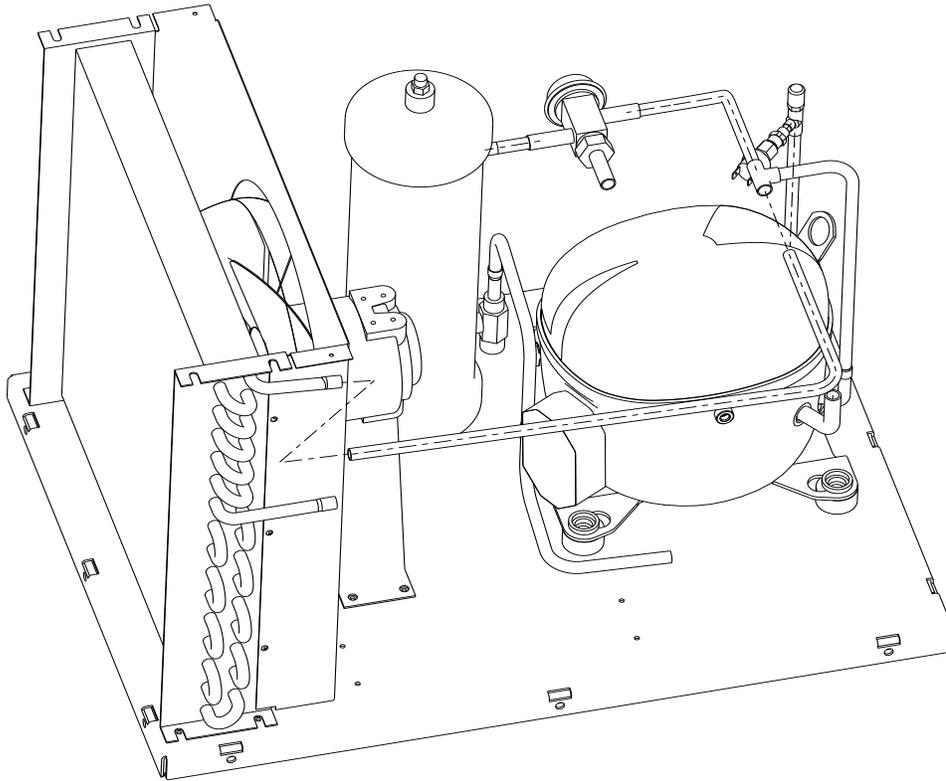

Figure 8. Connection of Headmaster Valve to Condenser IN
10. Connect the head master valve line to condenser IN and OUT respectively as shown in Figure 8.